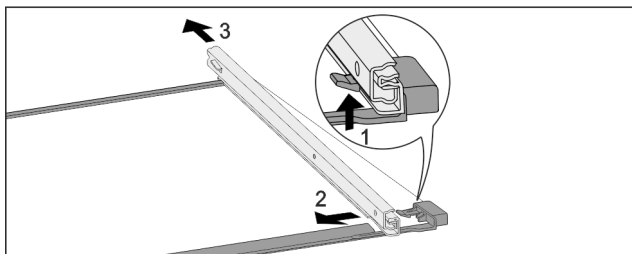

Fig. 194 Glass shelf with rails
- Push up front click-in hooks. Fig. 194 (1)
- Move the pull-out rails to the side Fig. 194 (2) and to the rear Fig. 194 (3).